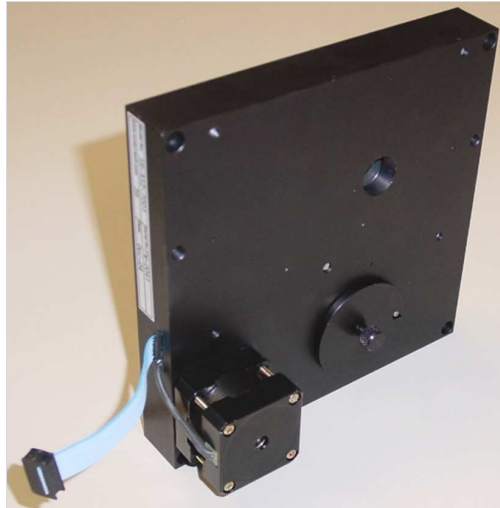

Figure 5: Filter wheel assembly
- 6-position filter wheel assembly **SR-ASZ-7001** (figure 5 below)